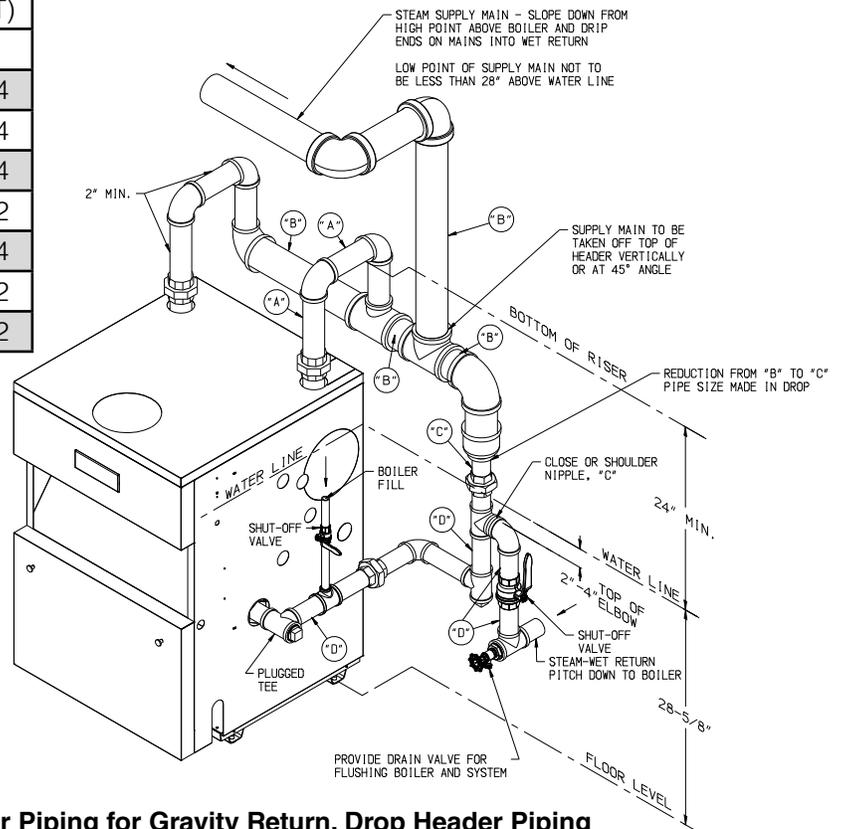

Figure 8-4: Steam Boiler Piping for Gravity Return, Drop Header Piping
6. The optional "drop header" piping shown in Figure 8-4 is useful when there is limited overhead clearance between the boiler and the mains. The riser closest to the equalizer can be omitted on the 3 thru 6 section boilers.